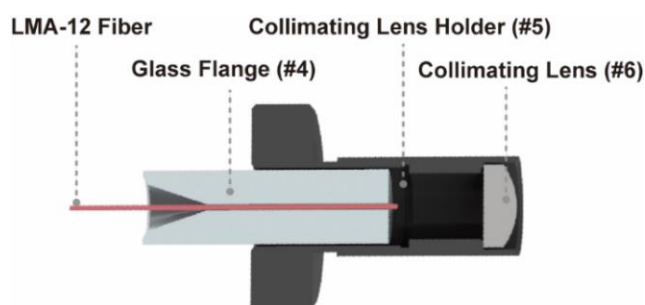

Figure 2.2 Schematic of the fiber collimator
Step 9. Add UV-curable adhesive to the funnel at the root of the glass flange (Figure 2.2). Wait until adhesive fill the gap between the glass and fiber, then cure the adhesive with UV lamp for ~1 min.
Step 10. Fix the collimating lens (#6) into the lens holder (#5) with UV-curable adhesive following a protocol similar to Step 9 (Figure 2.2).